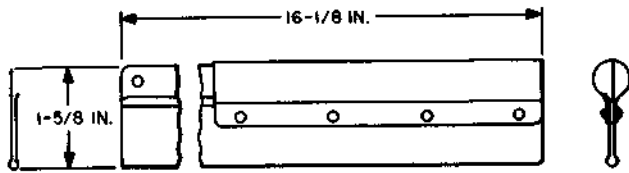

Fig. 26—KS-14553 Card Inserter Tool
2.28 KS-14553: The KS-14553 card inserter tool (Fig. 26) is used to insert single-coded cards in 1-type translators.